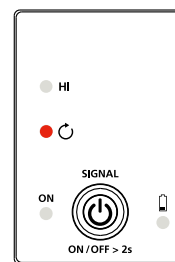

Figure 4.12b: Transmitter indicator showing signal in Loop mode
2. Short press ON/OFF button to select the Loop mode on the Transmitter (LOOP red LED will be ON). The clamp mode generates a boosted 6 kHz signal in order to provide superior tracing results. The LED on the Transmitter should appear as in Figure 4.12b.